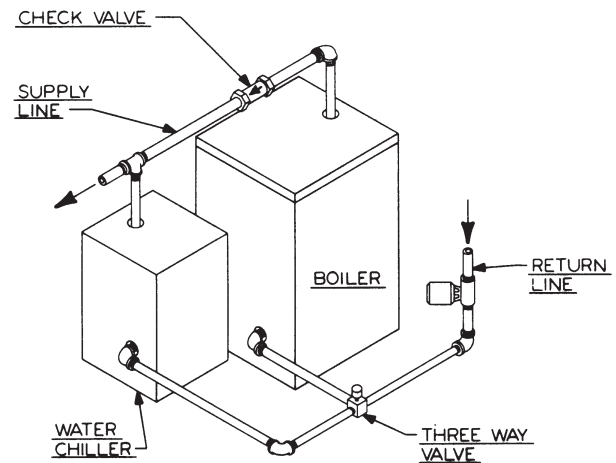

Figure 3.4: Parallel Hook-up with Water Chiller
- c. If this boiler and distribution system is used in conjunction with a refrigeration system, pipe the chilled medium in parallel with the boiler and install the proper valve to prevent the chilled medium from entering the boiler. See Figure 3.4.